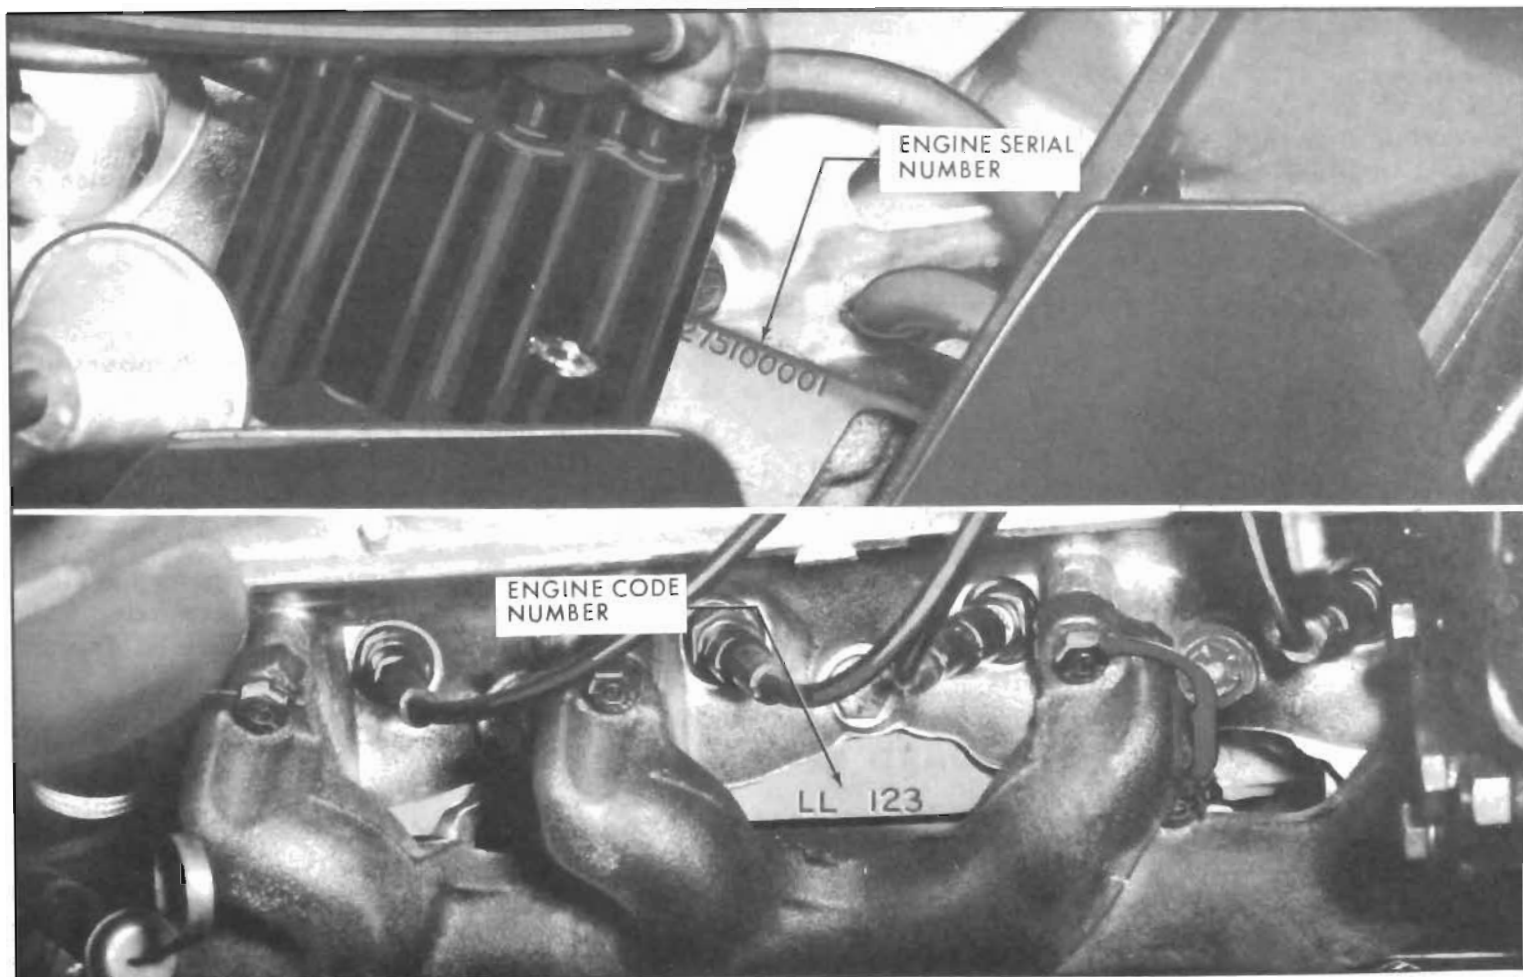

Figure 0-2—Engine Serial Number and Production Code Location
**Engine Numbers**—All 1965 engines are stamped with two different identification codes. One is the production code number. See Figure 0-2. This identifies the type of engine and its production date. The other is the engine serial number. This is the legal engine number and is the same number found on the vehicle identification plate. This number is used on registrations, titles, and other legal documents while the production code number is used to identify the engine on product reports, and similar correspondence.